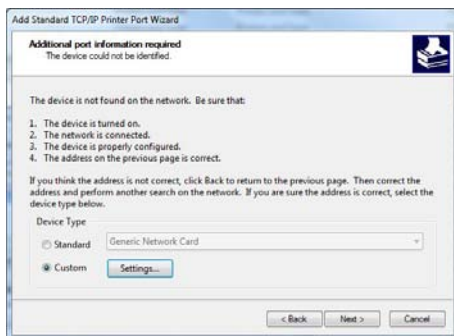

Figure 43: Custom settings
- After the detection select "Custom" and click on "Settings..." (see Figure 43).